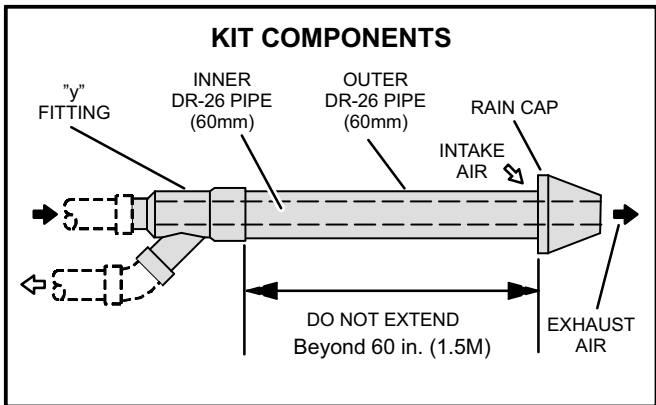

FIGURE 1
- 3 - Use proper joint cementing procedure to cement "Y" fitting to inner and outer pipes provided in kit. See figure 1 for component identification.
- 3 - Use proper joint cementing procedure to join Y" fitting to inner and outer pipes provided in kit. See figure 1 for component identification.